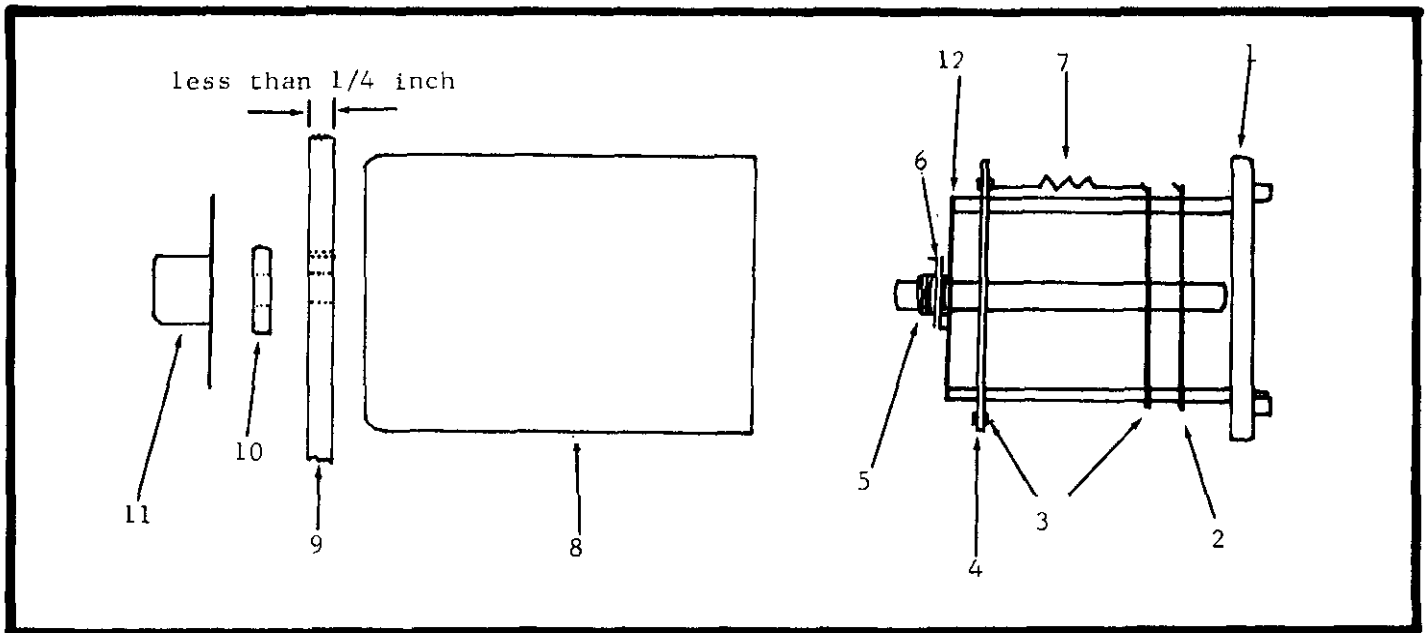

FIGURE 28. Model 3011 Shielded Switch Diagram.
b. Mounting (Figure 28).
1. For best results mount high megohm resistors in the four clockwise positions. The hole in the Teflon insulated deck (4) has Teflon insulated bushings in these four positions. The extra deck (2) can be
Item (See Figure 28)	Description
- a. Inside the Model 3011 Switch, connect a wire between the two INPUT Terminals and the solder lug connected to the wiper on the Teflon insulated deck (4, Figure 28).